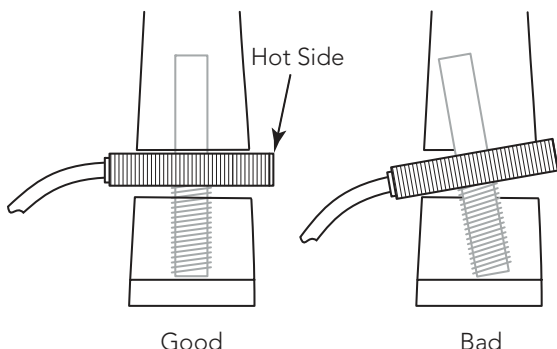

Figure 1
- Before you install the Full Circle, confirm that the wheels you are about to replace are lined up well in the legs. The wheels must be parallel and the posts perpendicular to the cuts in the legs or the Full Circle may become mechanically unstable on the instrument (figure 1).
The pickup is "hot" on the flat face of the wheel: on the side with the non-threaded post. For good performance it is crucial that the hot side of the pickup lies absolutely flat with no gaps or voids where it contacts the bridge. If necessary, sand the wood flat where it contacts the wheel before you install bridge on the bass (figure 1).
Once you have cut off the feet, fit the wheels with the bridge off of the bass. The hot side of the pickup should lay absolutely flat against the bridge, with no gaps or voids. If necessary, sand the wood flat at the contact point and/or increase the depth/diameter of hole before installing the bridge on the bass (figure 1).